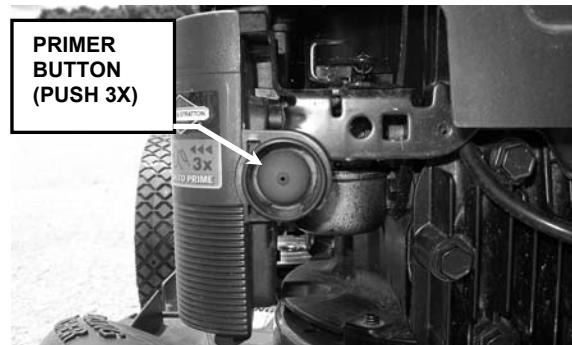

FIGURE 2.3
1. Push primer button three times to start a cold engine. See Figure 2.3. **NOTE:** The primer should not be required to restart a warm engine.